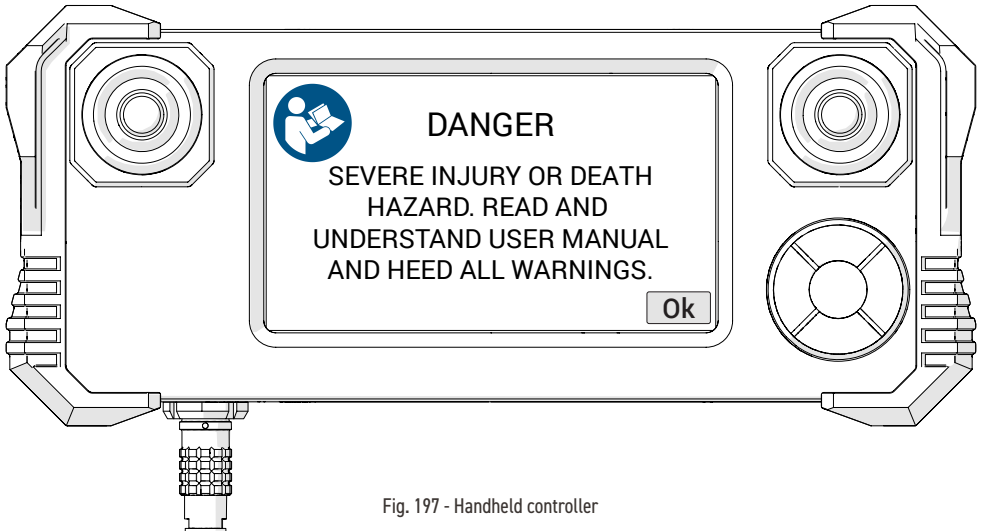

Fig. 197 - Handheld controller
5. A warning message will display on the handheld controller when power has been activated (Fig. 197). Once the dangers of using the **SKOOT** are recognized and understood by reading this user manual, touch **Ok** to acknowledge the warning.